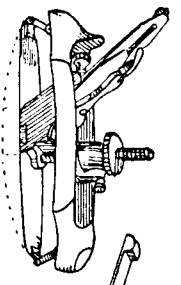

Fig 8 Compass Plane
**The Compass Plane, f. 7 & 8, p. 13,** is a smoothing plane with a convex sole, used for cleaning up curved surfaces. It has a sliding boxwood nose-piece shown hatched in the illustration, which may be moved downwards to make the sole fit the work to be planed. Fig. 8, p. 15, is the American variety, which has a malleable iron stock, carrying an adjustable cutter frame to which a spring steel face is attached. It will work either concave or convex surfaces. It has similar drawbacks to the smoothing plane mentioned previously.
**The Spokeshave, f. 8 & 9, p. 18,** is a variety of the compass plane, but adapted to quicker curves than the latter will enter. Fig. 8 is the older wood type of stock with double-tanged knife, now superseded by the iron stock (f. 9), with plane iron cutter and cover iron, a form much easier to sharpen than the other. They are made in several sizes with cutters from 1 1/4 in. to 4 in. wide. The best method of sharpening these cutters is to insert them tightly into a teerf made in the edge of a 3/8-in. strip of wood about 3 in. long which serves as a hand-grip.